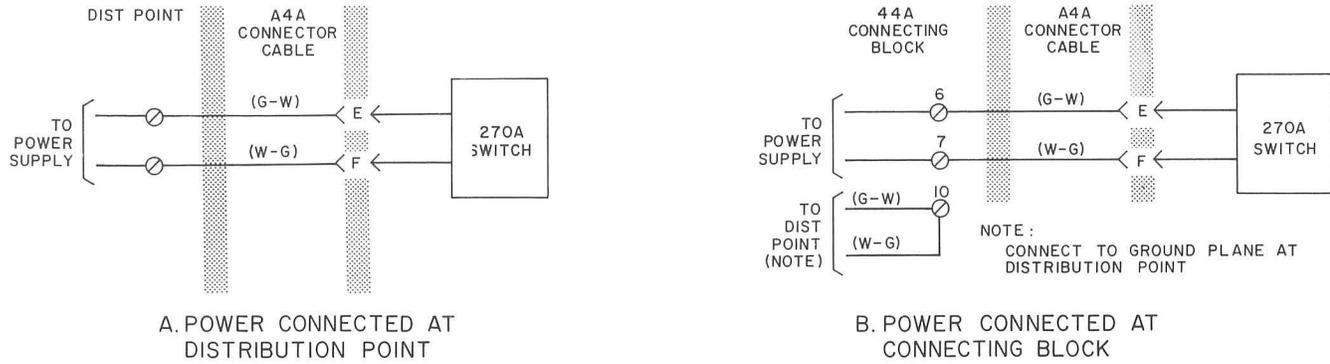

Fig. 4—Power Supply Connections
(j) Power leads from the transformer or power supply must be brought to the 44A connecting block, distribution point, or filter container for connection to designated leads in the A4A connector cable (see Fig. 4). Do not run directly to telephone set.
4. SEE FIG. 4 FOR POWER CONNECTIONS.